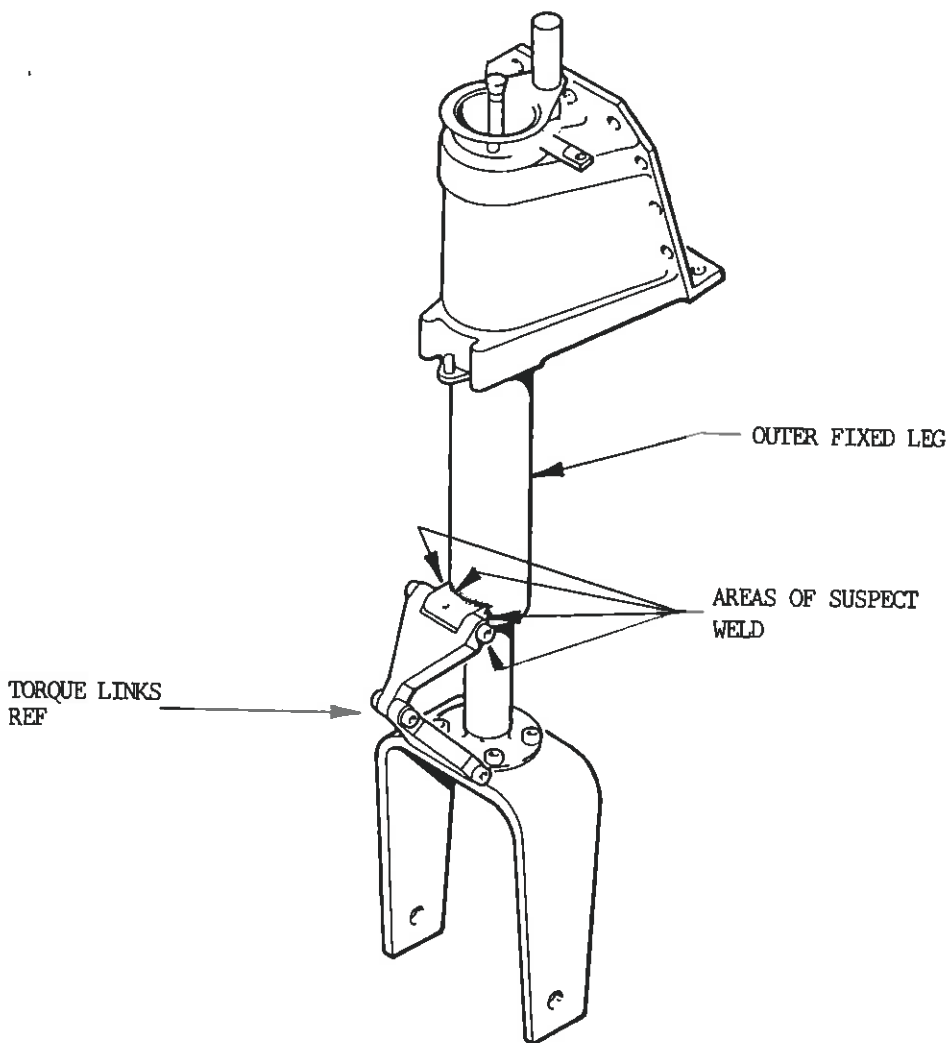

FIG 1
A crack has been reported in the top torque link mounting block weld. Refer Fig. 1.
- 1.1 a) With reference to Fig. 1 examine the block welded to the lower end of the outer fixed leg. Visually inspect welds around block if a crack is found in the paint covering the welds then continue as paragraph 1.2.